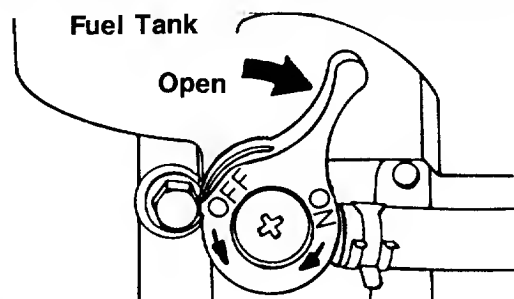

FIGURE 17.
2. Models 414R, 416R, 418R, 424R, 426R and 428R only: Open fuel shut-off valve. See figure 17.